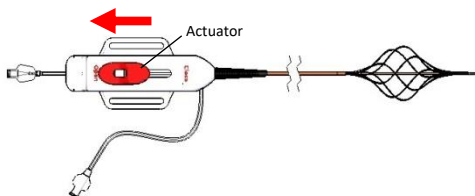

Figure 3. Move actuator in the proximal direction to expand the infusion basket to the desired diameter (diagram not to scale).
- Before placement, verify that the diameter of the infusion basket can be adjusted using the actuator on the handle. Moving the actuator in the proximal direction (towards the operator), increases the infusion basket diameter (Figure 3, Page 7). Moving the actuator in the distal direction (away from the operator), while simultaneously pressing the actuator release button, reduces the infusion basket diameter (Figure 4, Page 7).
4. Verify that the diameter of the infusion basket can be adjusted using the red actuator on the handle. Moving the actuator in the proximal direction (towards the operator) increases the infusion basket diameter (Figure 3). Moving the actuator in the distal direction (away from the operator), while simultaneously pressing the actuator release button, reduces the infusion basket diameter (Figure 4).
14. Under fluoroscopic visualization, use the red actuator on the handle to expand the infusion basket to a diameter less than that of the vessel in which it is situated, to minimize the chance of occluding any infusion holes. Moving the actuator in the proximal direction (towards the operator) expands the infusion basket (Figure 3). Moving it in the distal direction (away from the operator), while simultaneously pressing the white actuator release button, collapses the infusion basket to reduce its diameter (Figure 4).